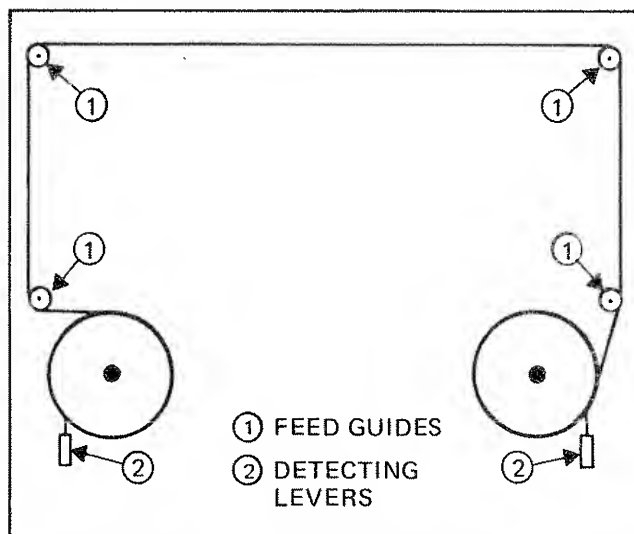

Figure 2-2. Properly Installed Ribbon
2-19. A printer ribbon is supplied with the 2240C and should be installed before attempting to operate the instrument. The ribbon installation location is accessible by raising the printer's front panel to the horizontal position. If the ribbon is already installed, refer to Figure 2-2 and check to ensure that the ribbon is properly positioned on the feed guides and that the ribbon spools are threaded in the proper direction. Use the following procedure for ribbon installation:
3. On the printer mechanism, locate and push down the detecting lever of either spool shaft (see Figure 2-2) and with the finger-side of either spool pointer toward the printer mechanism, slide one of the spools onto the shaft.
4. Unwind 6 or 8 inches of ribbon from the remaining spool, if necessary, and position the ribbon over the feed guides as shown in Figure 2-2.